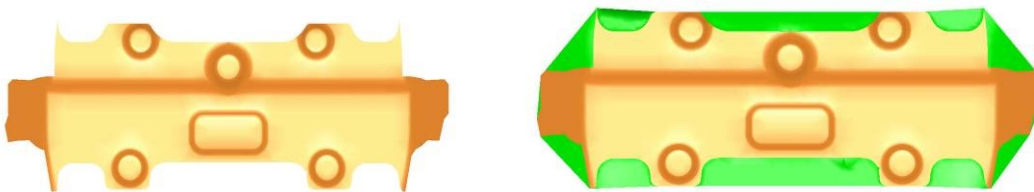

Figure 6.1.20 An illustration of a roller operation
2. The UNDO function is used to remove the filled mesh in the gap and allow the user to go back to the original part. Figure 6.1.20 illustrates the result of a typical roller operation.